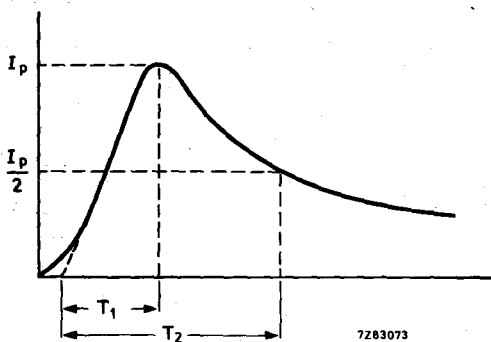
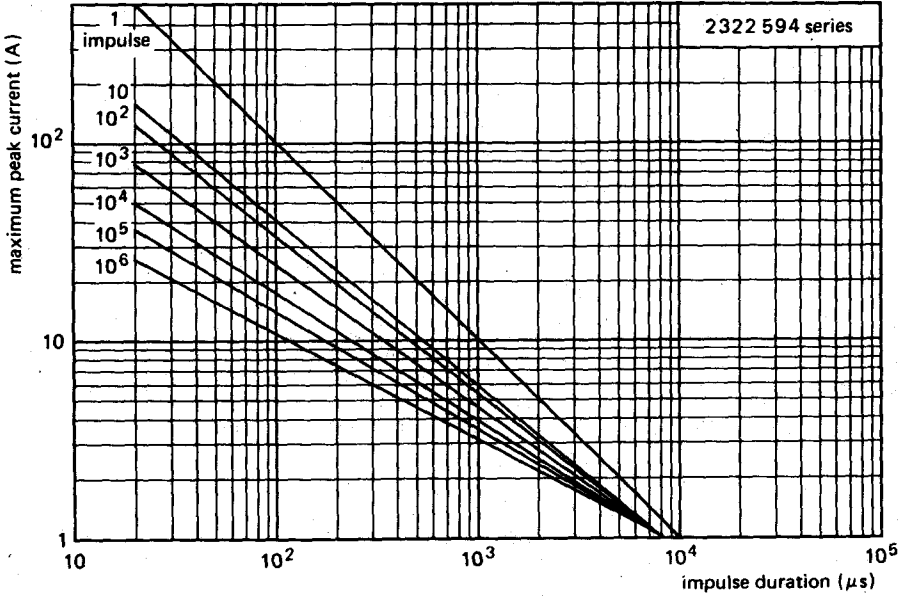

Fig. 4
Fig. 5 Max. applicable transient current as a function of impulse duration.
* This current is determined by the width T_2 (see Fig.4) and the number of impulses expected during the life of the component. Fig.5 gives the derating for different numbers of impulses. Resulting energy can be calculated with the equation: $E = K \cdot V_p \cdot I_p \cdot T_2$.
4. High energy surges are generally of longer duration. The max. energy for 1 impulse 10 / 1000 μ s is given as a reference for long duration impulses. This impulse can be characterized by peak current I_p and impulse width T_2 (virtual time to half I_p value following IEC 60-2 section six), see Fig. 4. If V_p is the clamping voltage corresponding to I_p , the energy absorbed in the VDR is determined by equation $E = K.V_p.I_p.T_2$; K depends on T_2 when T_1 is 8 to 10 μ s: for $T_2 = 20 \mu$ s K = 1; for 50 μ s 1,2; for 100 μ s 1,3; for 1000 μ s 1,4.